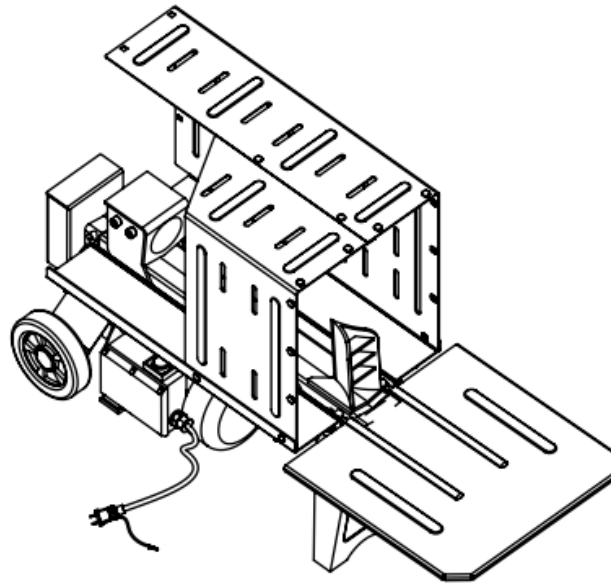

Figure 3
6. Making the hook in the front of the extension table contact with the cylindrical boss of the working table, and put the other side on the head of the cylinder. Screw two M6 knobs into the corresponding holes of left and right support plates (loosen two M6 knobs when dismantling the extension table). See figure 3